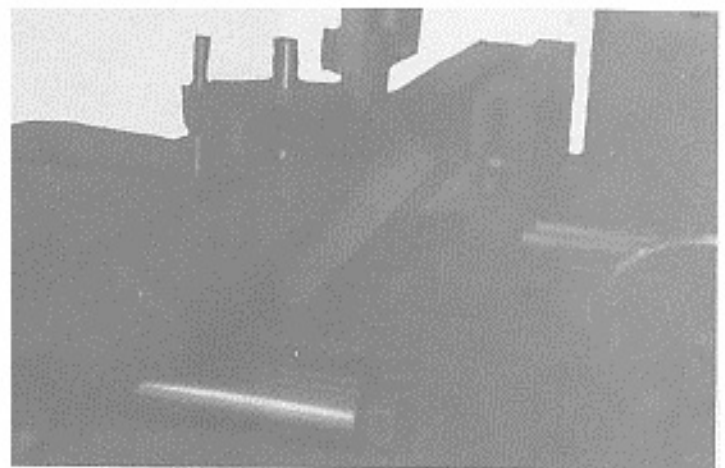

FIG 30
- G) Remove one of the feed rollers and guards (Fig.30).
- H) Set the remaining feed roller and guard to a suitable position to cut angle of stock (Fig.30).